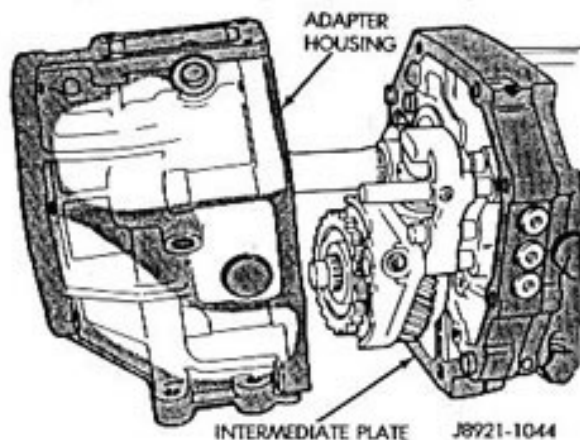

Fig. 14 Adapter Housing Removal
(17) Remove the adapter housing after loosening it (Fig. 14)